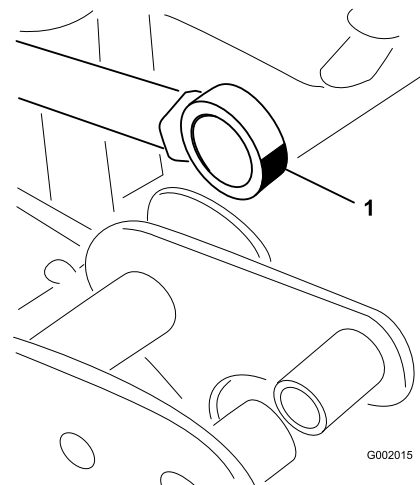

Figure 66
5. Swivel the rod-end bearing and apply grease into the bearing (Figure 66).